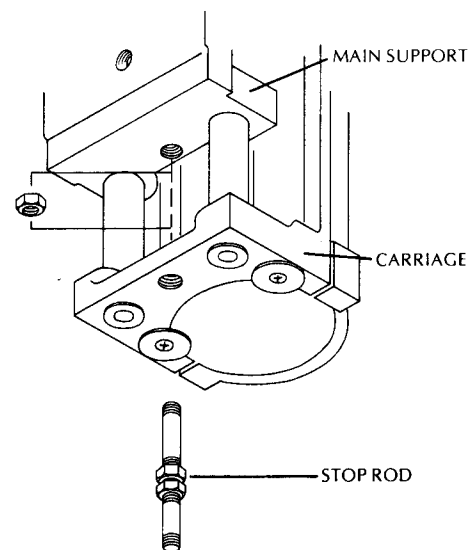

figure 7
1. Slide the stop rod through the clearance hole at the bottom of the carriage [Figure 7].